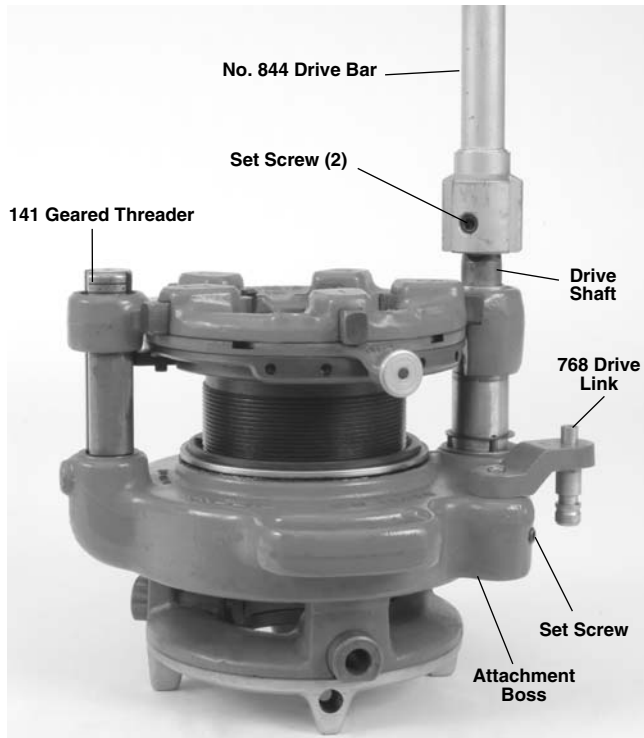

Figure 15 – 844 Drive Bar and 768 Drive Link Installed
8. With the drive shaft of the geared threader up, attach the 844 Drive Bar and securely tighten the two set - screws to retain in place (See Figure 15). For 535A machine, do not attach drive bar at this time.
1. Loosen setscrew in geared threader attachment boss. Install the 768 Drive Link into boss and tighten set-screw to retain (Figure 15). Do not over tighten – the drive link should rotate freely.